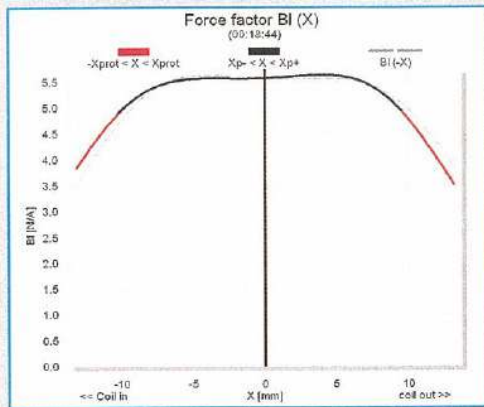
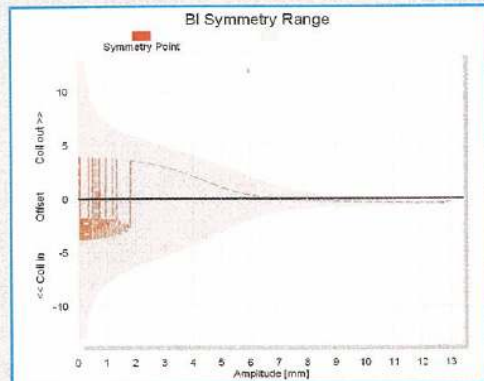
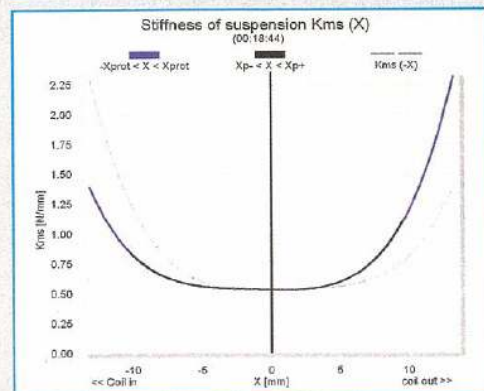

FIGURE 20: Klippel analyzer BI (X) curve for the 18WU/4741T00.
FIGURE 21: Klippel analyzer BI symmetry range curve for the 18WU.
FIGURE 22: Klippel Analyzer mechanical stiffness of suspension Kms (X) curve for the ScanSpeak 18WU/4741T00.
Klippel analysis for the ScanSpeak 6.5" woofer produced the BI(X), Kms(X) and BI and Kms symmetry range plots given in **Figs. 20-23**. The BI(X) curve (**Fig. 20**) is very broad and symmetrical, and like the 15WU, an affection of the underhung configuration. In the BI symmetry plot (**Fig. 21**), this curve shows a coil forward offset at the rest position (obviously, the analyzer was again having trouble resolving this below 3mm) that goes to 0.5mm offset at about 6mm of excursion and then stays constant throughout the remainder of the operating range. **Figures 22** and **23** give the Kms(X) and Kms symmetry range curves for the 18WU. The Kms(X) curve has some minor asymmetry in both directions, but with a coil-out offset of about 1mm at the rest position decreasing to 1mm coil-in offset at the physical Xmax position.